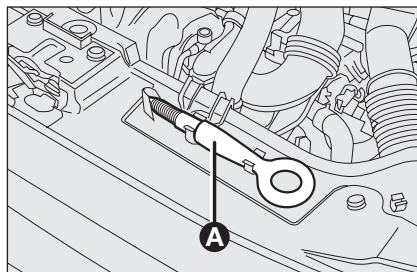

fig. 26
The tow ring provided with the vehicle is housed in the engine compartment as shown in **fig. 26**.
- ☐ open the bonnet and release the tow ring **A-fig. 26** from its seat;